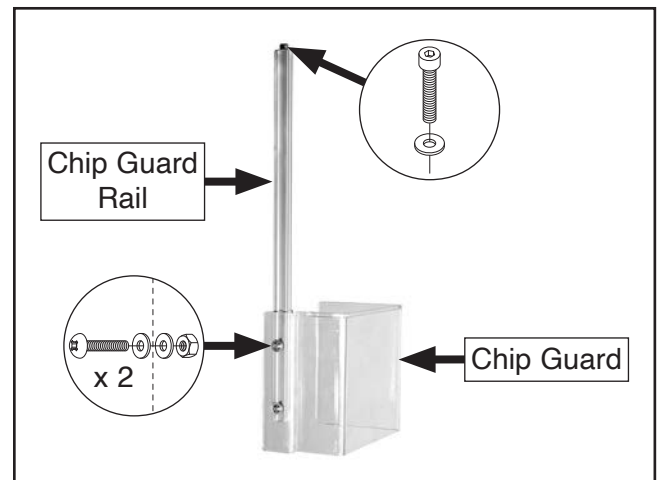

Figure 23. Chip guard attached to rail and location of rail cap screw and flat washer.
9. Remove (2) Phillips head screws, (4) flat washers, and (2) hex nuts from chip guard rail, then use fasteners to attach chip guard to chip guard rail, as shown in **Figure 23**.
10. Remove chip guard rail cap screw and flat washer shown in **Figure 23**.